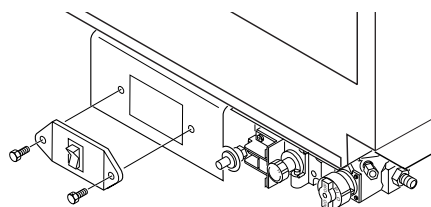

Figure 47 - Removing Switch Plate
2. Unscrew switch plate (see Figure 47).